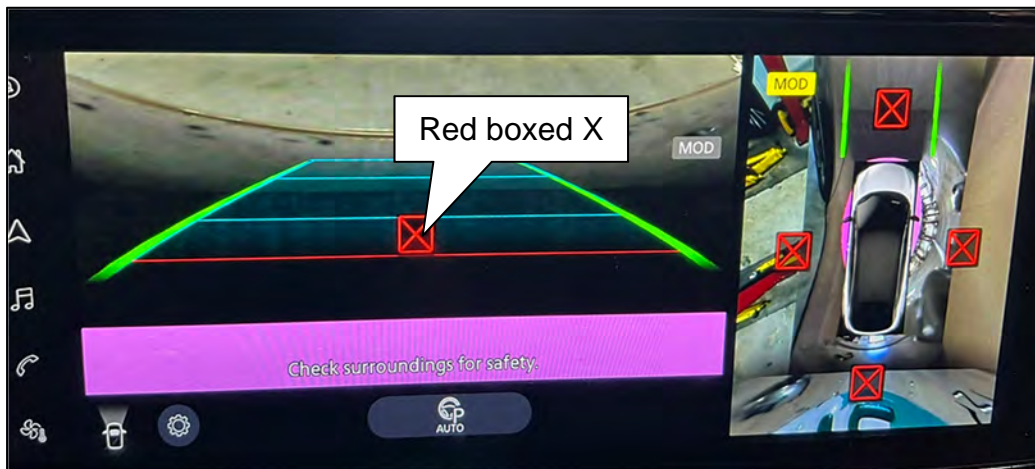

Figure 15
- HINT:** All four (4) cameras in Figure 15 require calibration.